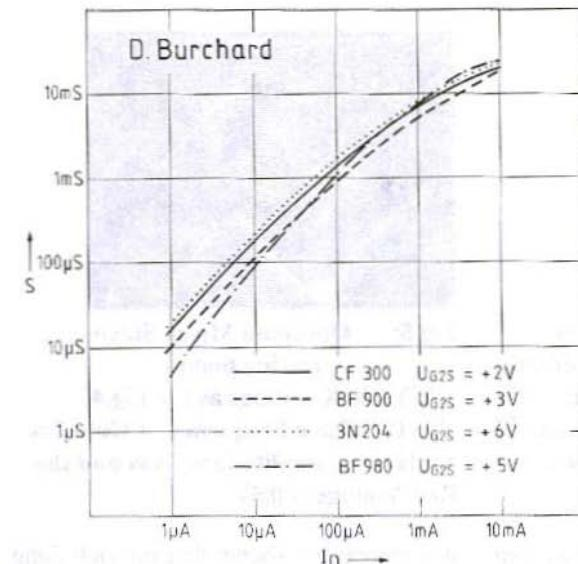

Fig.3:
and basically contains no quadratic elements. If we think of a few mathematical principles, then it becomes clear that it is always possible to find a parabola (and thus a quadratic curve) which coincides with a measured crooked curve at three points. If you want coincidence at still more points, then you have to turn to complicated potential functions like equation (2). What really happens involves the measurement of the gradient over a wide range of the drain current, as has been done for Fig.3. Unfortunately, some mathematics are once again required for the interpretation.
process can be read up in Meinke/Gundlach (3rd edition) (2). Unfortunately the new, fourth edition no longer refers to this interesting type of characteristic curve analysis. The process can also be used at high frequency. Even being restricted to the first derivative (gradient, Fig.3) still allows interesting information to be obtained. The diagram shows the relationship between the first derivative and the basic function with logarithmic axial distribution. In this diagram exponential functions and some potential functions are formed as straight lines, namely
ingly low, and permits a voltage amplification of only 6.6 for G1 after D. The gradient has been assumed to be 20mS. In reality, it is somewhat less than the specification sheet for the same drain current states, but it gives a high G2 voltage. It can be more advantageous for a voltage amplifier to select an operating point with a smaller current (UG2S negative), for the gradient falls back less rapidly than the optimum load resistance rises. Fig.3 includes the fact that reducing the current to 1/10 brings the gradient down to 1/4. The voltage amplification rises to 16.5.